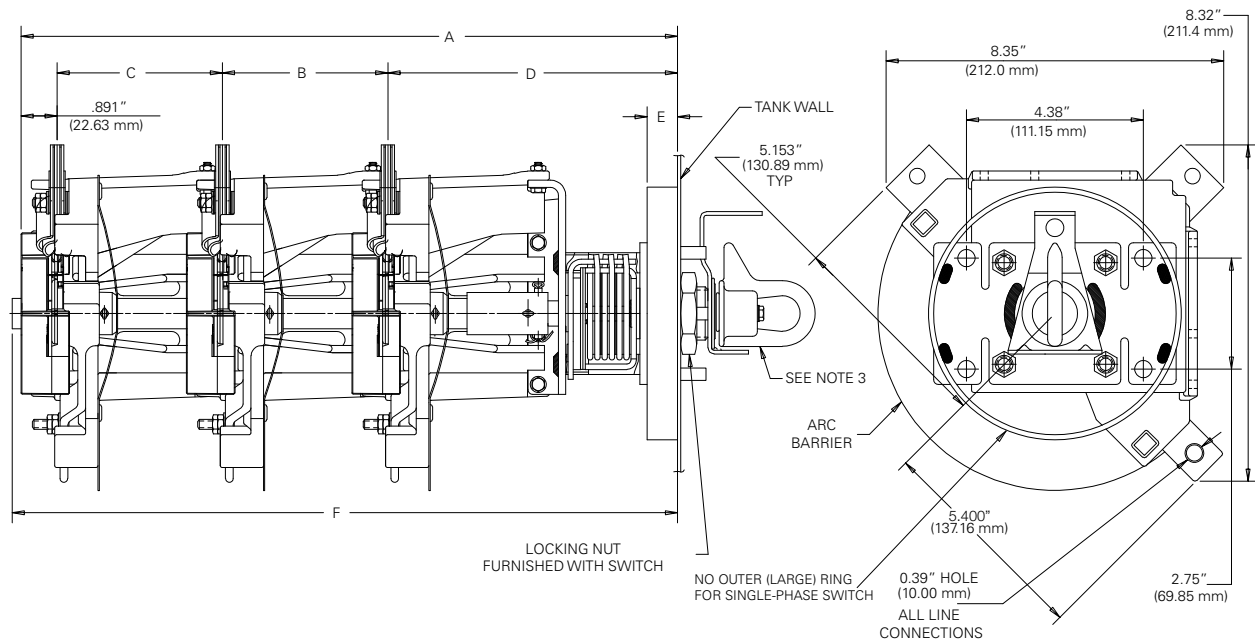

Figure 3. Line illustration with dimensions of sectionalizing switch with “Ring-Mount System”
- Dimensions given in Figure 3 and Table 3 are for reference only.
Table 3. Dimensional information for Figures 3 and 4 (inches/mm)